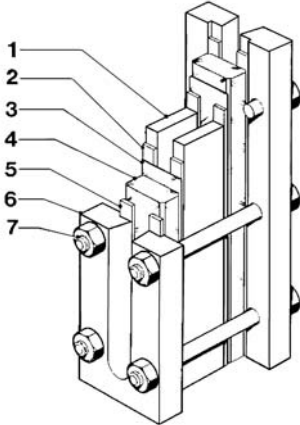
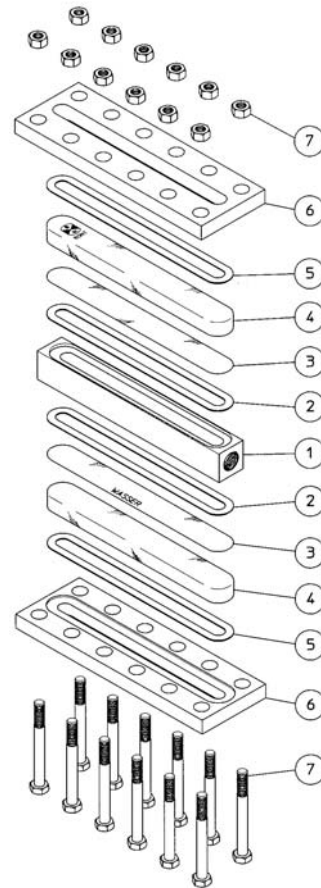

Fig. 764 - BT23
Fig. 6 - Transparent level gauge typical assembly dwg
1. Refer to proper level gauge type to identify items (Table 3 and typical assembly Dwg Fig. 6 and Fig. 764, 765, 766, 767, 814.1, 815.1, 824-BC23/BC24/BC28).
3. Depending on gauge type, fit cover plate (6) with bolts (7), stud bolts (8) or studs (9) for Type BC level gauges.
4. Only for BT 32/33 fit angular pieces (13). Place cushion joint (5).
5. Place transparent glass (4) into its housing on cover plate so that glass side with the BONT® trade mark must be faced to the cushion joint. Be careful to avoid damages to glass (as scrapes) made by metal items. Insert mica shield (or Kel-F shield), if any (3). Mica shield has a side with printed the word "WASSER". Such side must be placed faced to the observer (internal side of level gauge).
6. Place sealing joint (2).
7. Place centre piece (1) so that it is correctly matching over sealing joint and glass. Be careful to avoid damages to glass or to sealing joint or to mica shield.
8. Place sealing joint (2) matching it on the centre body housing. Insert . Insert mica shield (or Kel-F shield), if any (3). Mica shield has a side with printed the word "WASSER". Such side must be placed faced to the centre piece (internal side of level gauge).
9. Place transparent glass (4) on its housing . Place transparent glass (4) into its housing on centre piece so that glass side with the BONT® trade mark must be faced to the observer (outside of the level gauge). Be careful to avoid damages to glass (as scrapes) made by metal items.
10. Place cushion joint (5). Only for BT32 / BT33 insert angular pieces ("L" bars) (13) .
11. Fit the cover plate (6); be very careful to avoid scrapes or dam-
- Refer to proper level gauge type to identify items (Table 3 and typical assembly Dwg. Fig. 6 e Fig. 7).
- Screw studs (9) in the centre piece (1).
- Place sealing joint (2) centering it in its centre piece housing. Insert mica shield (3) if any. Mica shield has a side with printed the word "WASSER". Such side must be placed faced to the sealing joint (internal side of level gauge).
- Place transparent glass (4) into its housing on centre piece so that glass side with the BONT® trade mark must be faced to the cushion joint. Be careful to avoid damages to glass (as scrapes) or to mica shield made by metal items.
- Place cushion joint (5) and insert angular pieces ("L" bars).
- Place cover plate (6) so that it is correctly matching over cushion joint and glass. Be careful to avoid damages to glass or to joints or to mica shield.